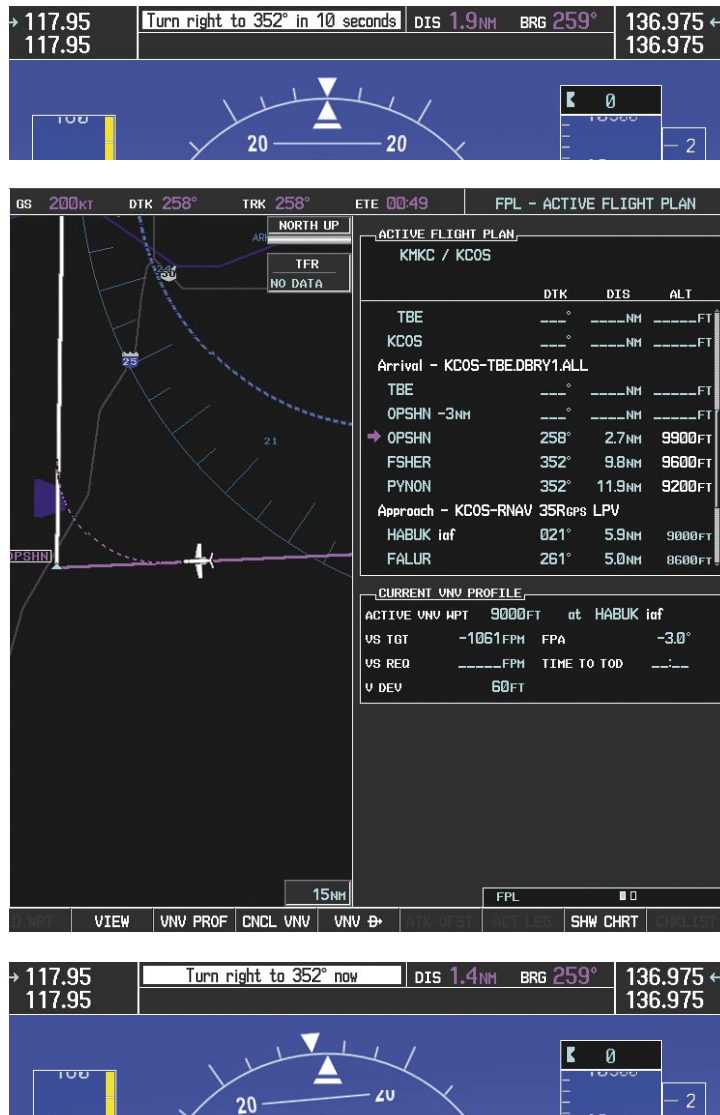

Figure 5-131 Turn to intercept OPSHN to FSHER Leg
- 18) The aircraft is approaching OPSHN. The upcoming turn and next heading are announced at the top left of the PFD as seen in Figure 5-131. Initiate the turn and maneuver the aircraft on a track through the turn radius to intercept the magenta line for the OPSHN to FSHER leg and center the CDI.